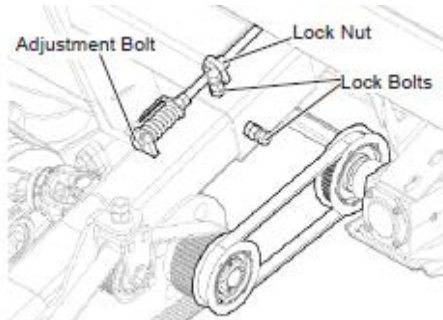

Figure 57
3. Loosen the jam nuts and spring assembly holding the right-hand draper belt. Figure 57
4. Retighten the lock bolts and lock nut when desired tension is reached. Figure 57